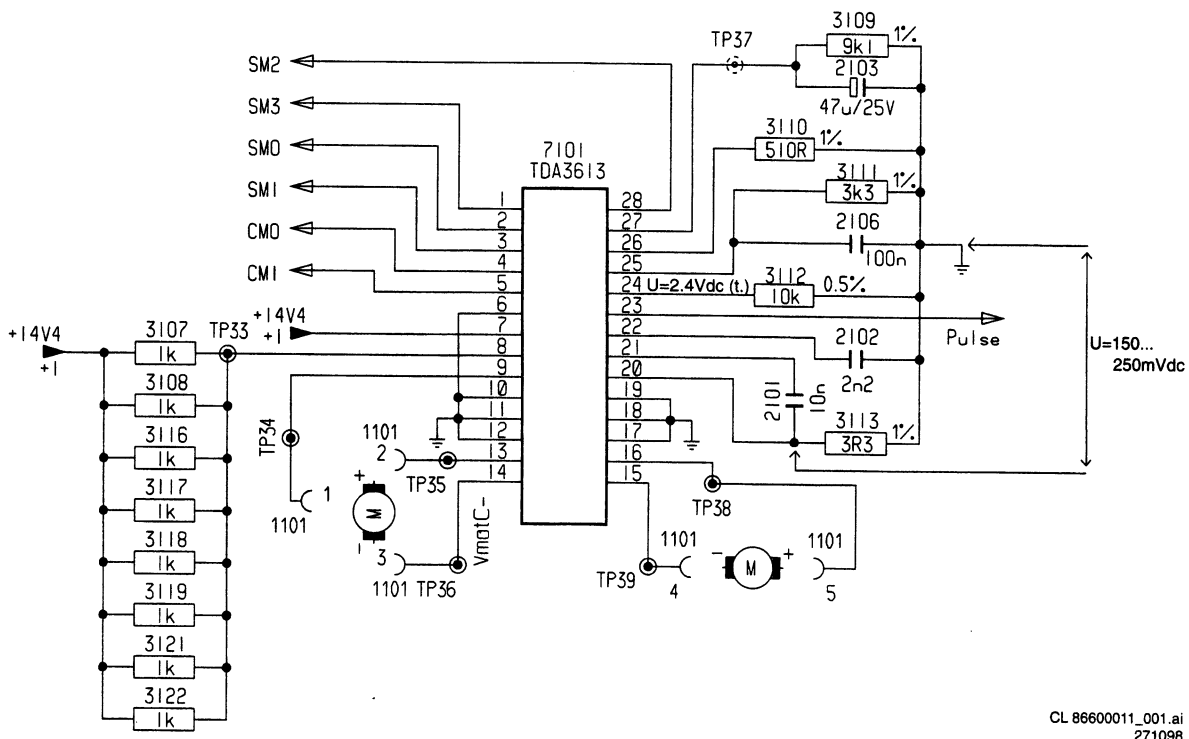
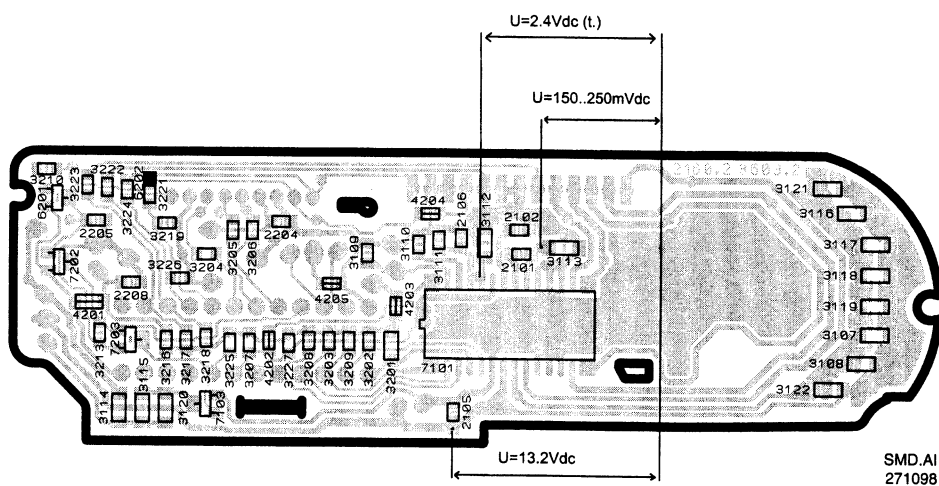

Figure 7
Figure 9
- **Note:** refer to figures 7 – 9.
- First check the voltage at TP3 (collector of pos. 7102). It must be equal to the normal car voltage (nom. 13.2VDC). If this value is not met, check pos. 7102 / 7103 and replace if necessary.
- Measure the voltage between GND and pin 20 of pos. 7101, as indicated in figure 9. It must be 150 ... 250mVDC and hence I_{R3113} must have a value between approx. 45 .. 76mA.
- Visually check resistors pos. 3109, 3110 and 3112. The value resp. must be: 9k1, 510 Ω and 10k.
- Measure voltage at the indicated point (pos. 7101 pin 24); this must be 2.4VDC (typical value). If this value is not met, replace pos. 7101 or pcb.